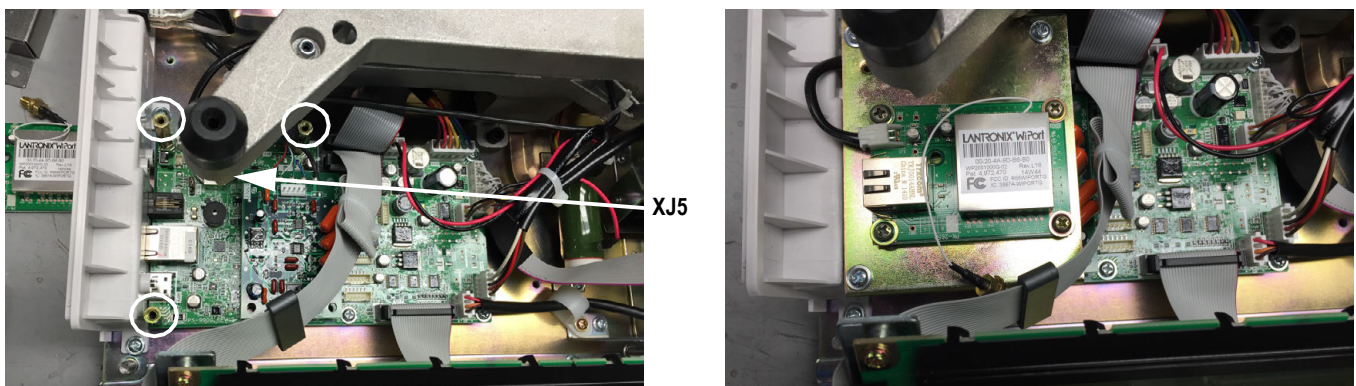

Figure 10-3. Plug XJ5 into WiPort (Standoffs Circled in White)
5. Remove the three screws securing CPU board and replace with included standoffs (locations circled in Figure 10-3). Save the screws for later use.